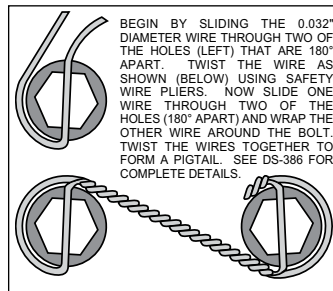

Figure 3. Safety Wire Diagram
- Install wheel studs (5) into the hub (6), Photo 2. Torque to 77 ft-lb. **NOTE:** There are two five lug patterns in the hub (5 x 4.50 and 5 x 4.75). Ensure the correct hub stud pattern is being used to fit the wheel application.
- Pack the large inner bearing cone (7) with high temperature disc brake bearing grease (available from your local auto parts store) and install into the backside of the hub (6), Photo 3.
- Install the grease seal (8) by pressing into the backside of the hub (6), flush with the end of the hub, Photo 3.
- Orient the rotor (9) and the hat (10) as shown in Figure 1 and Photo 4. Attach rotor to hat using bolts (12) and washers (11). Apply red *Loctite*® 271 to the bolt threads and torque to 155 **in-lb** using a criss-cross pattern. For an added measure of security, the bolts may be safety wired using standard 0.032 inch diameter stainless steel safety wire as shown in Figure 3. Refer to Wilwood's data sheet DS-386 (available at www.wilwood.com/Pdf/DataSheets/ds386.pdf) for complete safety wire installation instructions.
- Pack the small outer bearing cone (14) with high temperature disc brake bearing grease and install into hub (6). Slide the hub assembly onto the spindle. Secure using spindle washer (15) and OEM spindle nut, Photo 5. Adjust bearings per OEM specifications. Install saved OEM nut lock (if any) and a new cotter pin (not included).